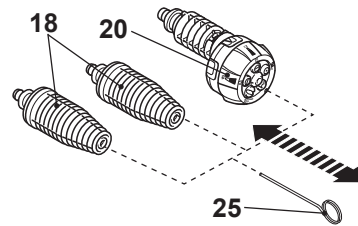

Fig. 25
Remove any dirt deposits from the nozzle (18/20) hole using the cleaning needle (25) (Fig. 25).